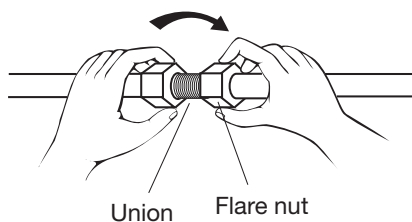

Figure 13
9. For proper connection, align the union tube and flare tube straight with each other, then screw in the flare nut lightly at first to obtain a smooth match (Figure 13).